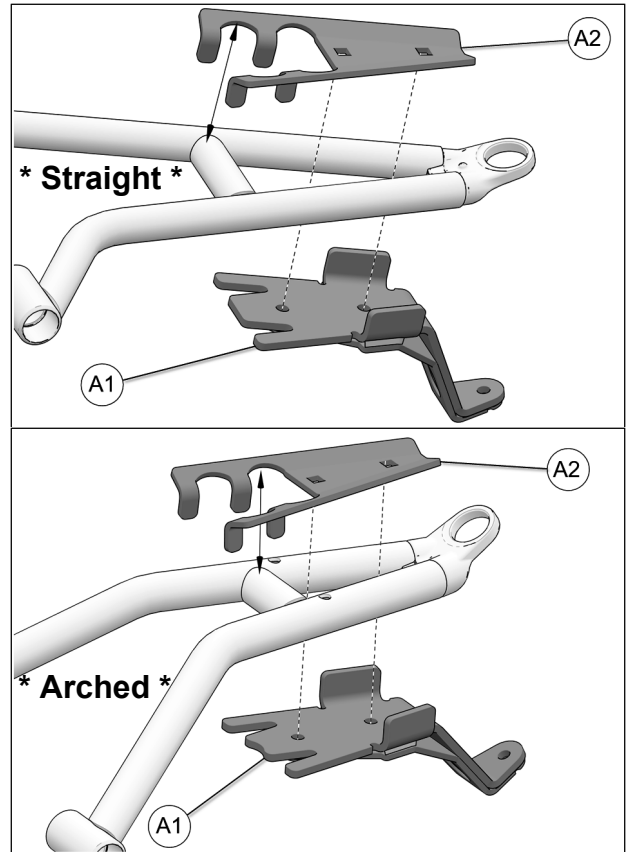

Fig. 16
4. Position bottom part of anchor bracket (A1) assembly under front lower suspension arm, as shown in the figure below. Position bracket cover (A2) over suspension arm and align holes in cover and bottom part. Refer to Fig. 16